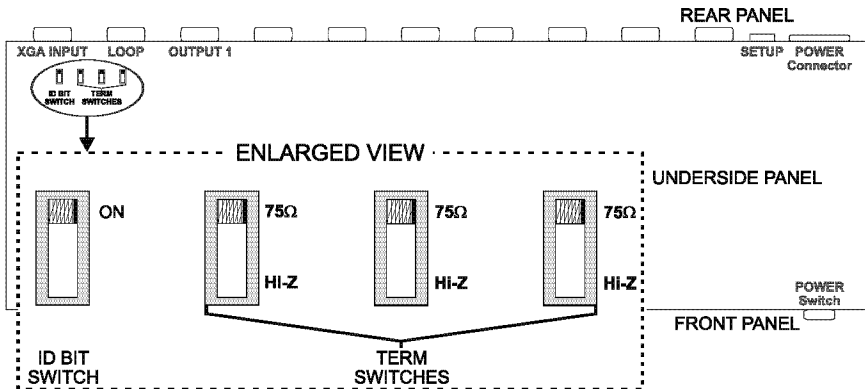

Figure 2: VP 108 Underside
Figure 2 and Table 3 define the underside switches:
5. Set the switches on the underside for looping³ (see Figure 2).